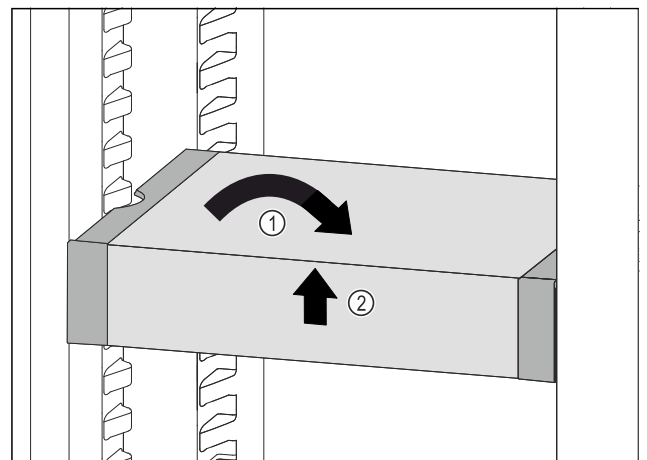

Fig. 162
- ▶ Set VarioSafe straight. Fig. 162 (1)
- ▶ Lift VarioSafe at the front. Fig. 162 (2)